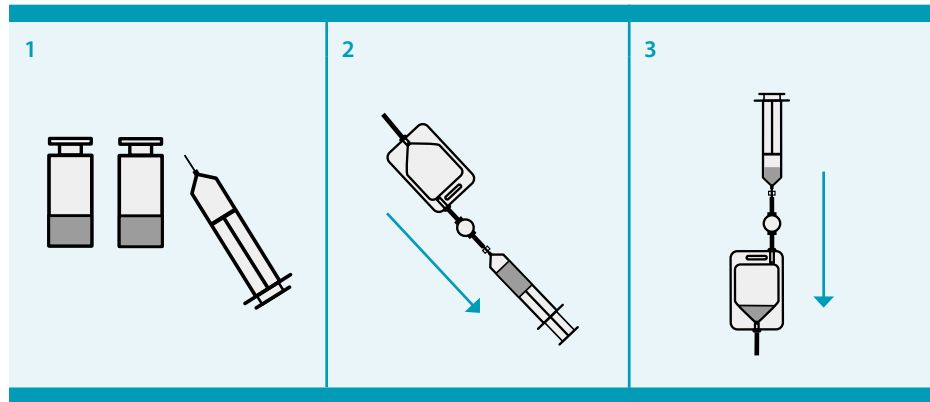

Figure 6.10: Transfer of one or two reagents into the reagent bag of the tubing set
Figure 6.10 illustrates how to transfer the contents from the reagent vial(s) into the related reagent bag. The following preparative steps must be performed subsequently:
1. Remove the plastic cap(s) from the reagent vial(s). Remove the contents of the vial(s) using a suitable Luer Lock syringe equipped with a needle. If two vials of CliniMACS CD34 Reagent are required (large-scale process), combine the contents of the vials in the Luer Lock syringe (see Figure 6.10, part 1). Carefully remove the needle from the syringe.
2. Connect the syringe via Luer Lock connection to the respective reagent bag of the tubing set. Initially, evacuate the air from the bag (see Figure 6.10, part 2).
3. Turn around bag and syringe and transfer the reagent (without air) in one go through the sterile filter into the bag (see Figure 6.10, part 3). Remove the syringe. Attach the reagent bag to the hook on the respective bag hanger. Make sure that the liquid can flow freely.
For details on appropriate reagent transfer and bag positioning, refer to Figure 6.10. and Table 6.2. Note that Bag 3 to Bag 5 are not used for the LP-34-(320) Enrichment process.
For details on appropriate IgG solution transfer and bag position, refer to Figure 6.10. and Table 6.2.